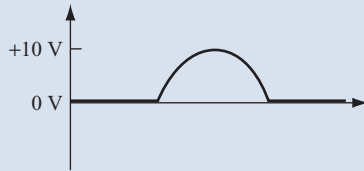

FIGURE 11.7
See Figure 11.7.
**5** Figure 11.7 shows the output waveform of the circuit shown in Figure 11.3, for one complete cycle of the input waveform.